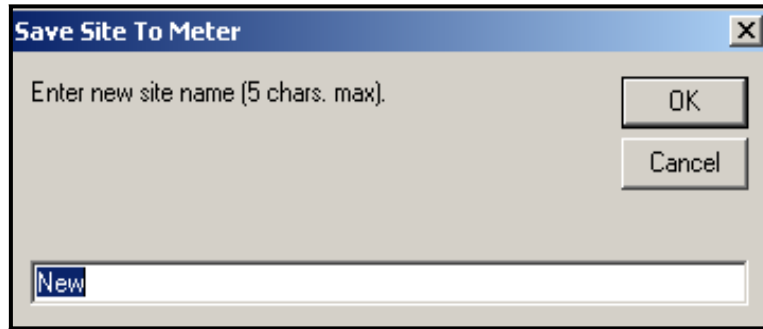

Figure 32: Site Name Entry Window
2. A window opens similar to Figure 32 below. Enter the desired name, and click [OK].